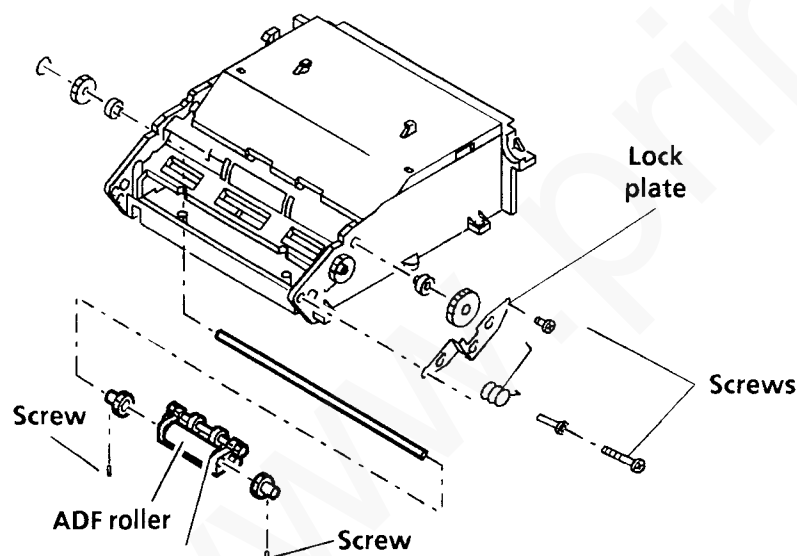

Figure 1. ADF roller
5. Remove two screws from the lock plate (Figure 1).
13. Remove the two screws from both gears on ADF roller shaft (Figure 1) and slide ADF roller shaft out of the assembly.